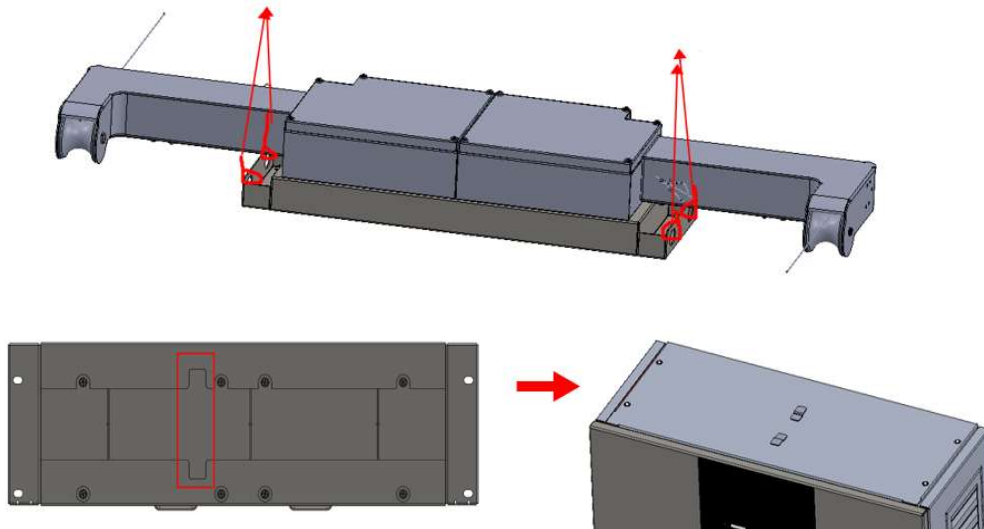

Figure 20 Move the CMS onto the charger main body
(14) Hoist the CMS, move it onto the top of the charger main body and align the gap of the adapter plate with the clamp plate on top of the charger main body as shown in Figure 20.